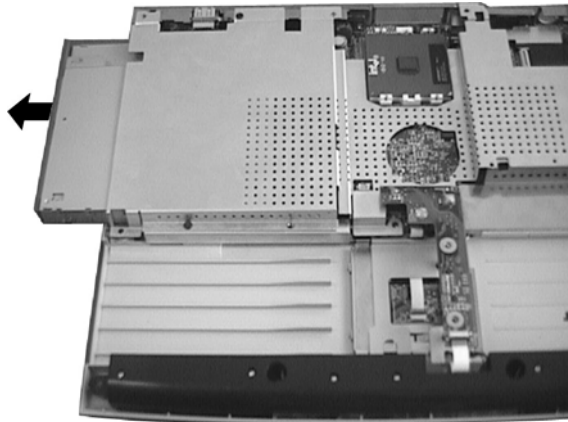

Figure 2-12
6. Hold the CD-ROM drive and slide it outward carefully. (figure 2-12).